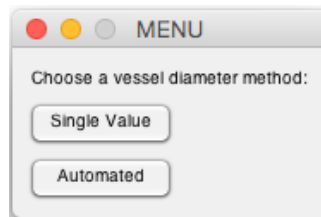

Figure 2.6 Select the vessel diameter detection method. Single values can be typed into the command prompt (units of cm).
1. Choose to use either a single vessel diameter measurement (e.g. extracted from a high resolution B-mode image) or the automated vessel diameter approach (Figure 2.6).